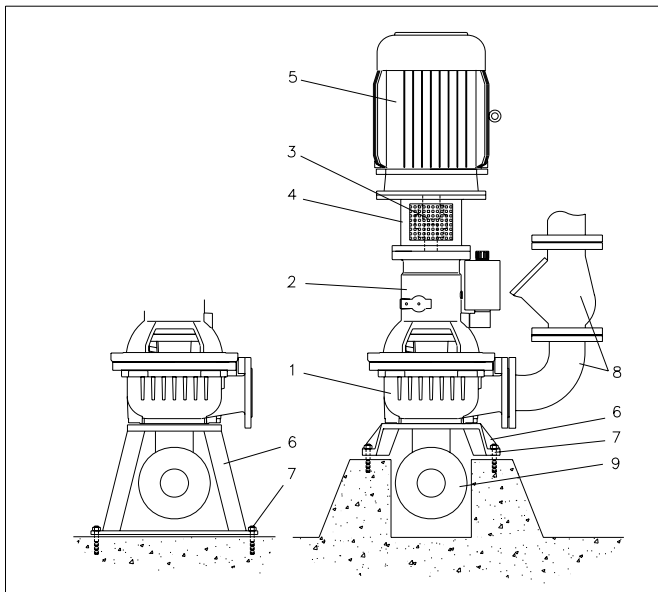

Fig. 7.4
See fig. 7.4.
- fixation of the base plate to the floor, see fig. 7.4 pos. 7.
In case of a construction without a fixed motor support like fig. 7.4 the alignment of the coupling should be checked. See 7.2.1.